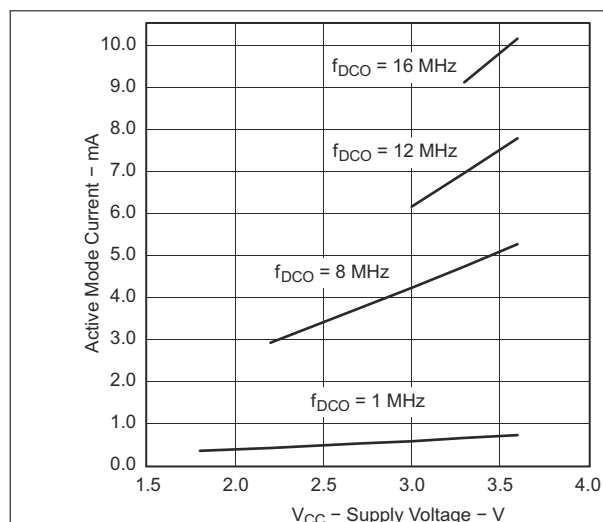
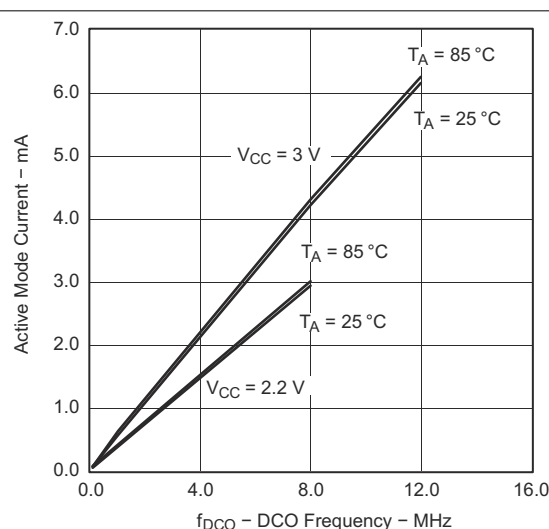

图 8-2. Active Mode Current vs Supply Voltage ($T_A = 25^\circ\text{C}$)
图 8-3. Active Mode Current vs DCO Frequency
over recommended ranges of supply voltage and operating free-air temperature (unless otherwise noted)^{(1) (2)} (see 图 8-2 and 图 8-3)